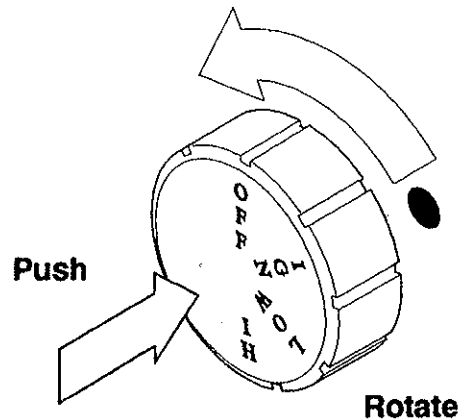

FIGURE 14. Control Knob
6. From off position, push in gas control knob slightly and turn counterclockwise  to the IGN position (FIGURE 14) Push and hold control knob for 5 seconds.